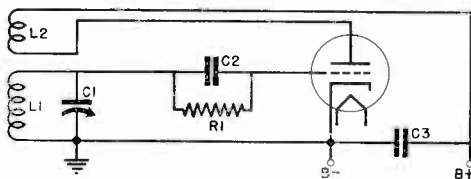

Fig. 2-92
*Ans.* Refer to Fig. 2-92. Also see the answer to Question 2-88. The only difference between this circuit and Fig. 2-88 is the fact that we now have a series-fed plate circuit instead of a shunt-fed circuit.